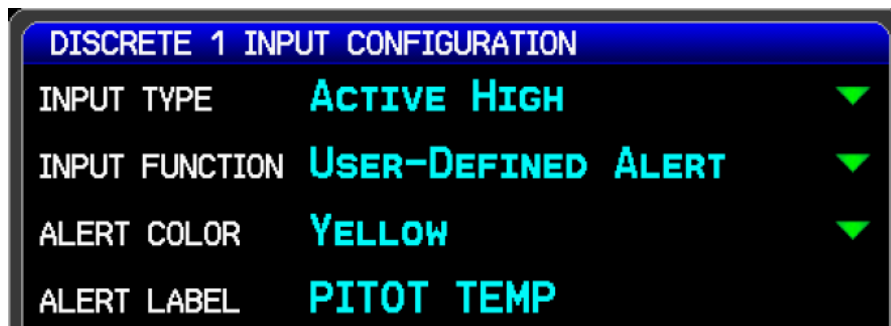

Figure H-39 Configuration #2
2. The discrete input configuration shown in Figure H-39 will result in a yellow "PITOT TEMP" alert that will appear on the PFD any time the GAP 26 heater is powered off, or if it is powered on but the probe temperature is below approximately 25° C (77° F). If pitot heat is powered and the probe temperature is sufficiently high, the yellow "PITOT TEMP" alert will not appear.